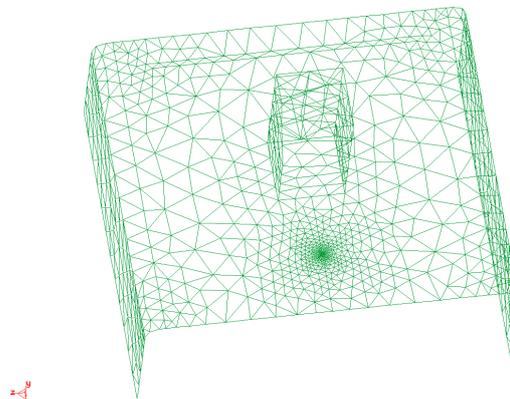

Figure 6. Mesh with the elements concentrated around a point, with a size gradient of 0.8.
- 11 . The size gradient (0.4) results in a higher density around the point (see Figure 6).